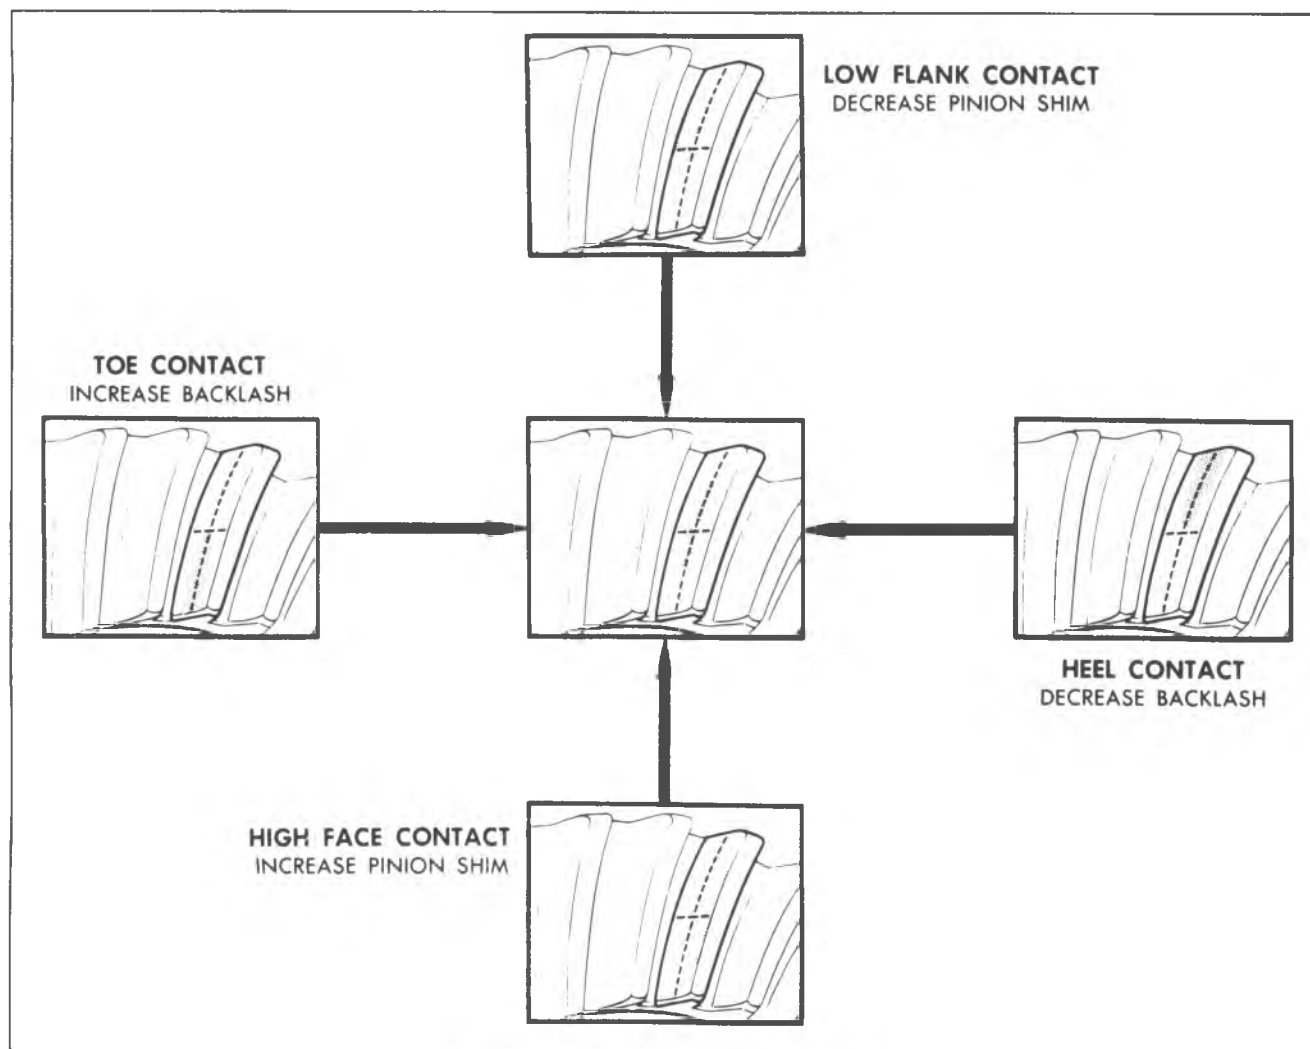

Fig. 13F-Gear Teeth Contact Pattern Check
5. Observe pattern on ring gear teeth and compare with figure 13F. Make adjustments as necessary.